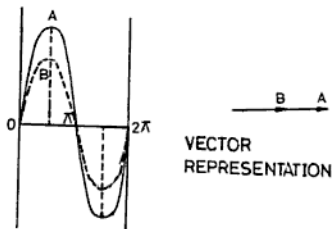

Fig. 11.3: Quantities in-phase
**In-phases** When two alternating quantities (current and voltage) attain their maximum and minimum value simultaneously, then these quantities are said to be in-phase as shown in Fig. 11.3.